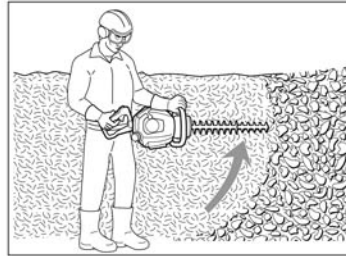

Fig. 13
- > First cut both sides from the bottom cutting upwards to the top. This will prevent any of the cuttings falling into the path of the area still to be cut (Fig. 13)